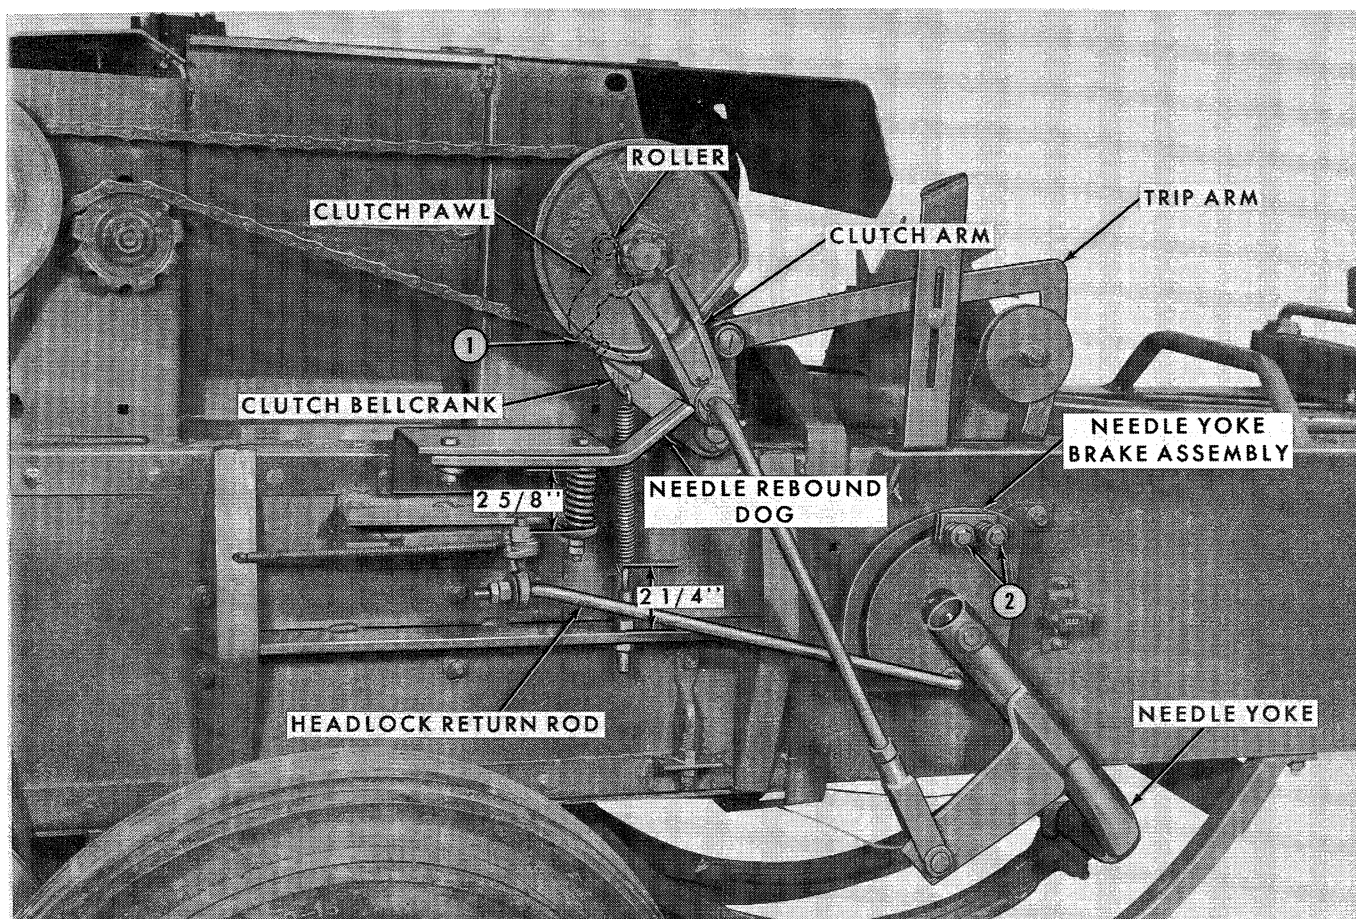
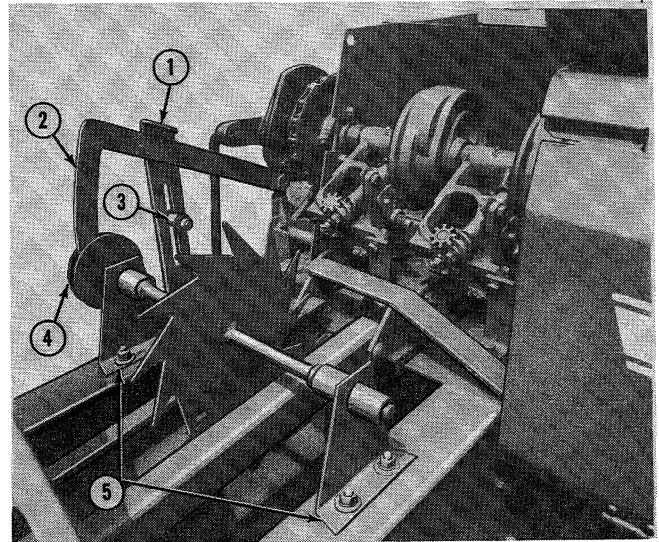
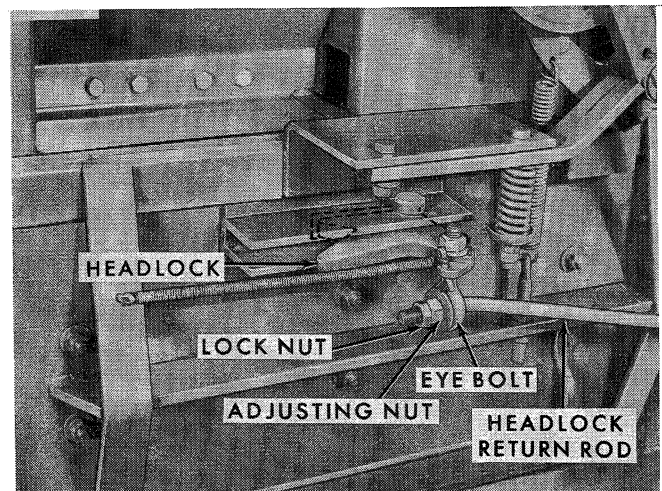

Figure 34
Figure 35
Figure 36
The hex head bolt in the end of the bellcrank, Figure 34, should be adjusted to provide a 1/16" clearance between the bolt head and the clutch pawl, when the clutch arm is seated against the rebound dog and the pawl roller is held against the clutch hub.
Adjust the hex head bolt (1), Figure 34, as follows:
1. Seat the clutch arm against the rebound dog, as shown in Figure 34.
The rebound dog, Figure 34, must be adjusted to retain the clutch arm and prevent any forward motion of the needles while they are in the home position. For proper tension on the needle rebound dog, adjust the spring to a length of 2-5/8" with the clutch arm seated against the rebound dog as shown.
The needle yoke brake assembly, shown in Figure 34, maintains a constant load on the needle yoke arm
during the tying cycle. This prevents the needles from overrunning the drive and also helps hold the needles in the home position. The brake springs should be adjusted to 7/8" – 15/16" in length. The adjustment can be made by means of the two hex head bolts (2), Figure 34.
The bale length can be adjusted from 12" to 52" by changing the position of the stop bolt (3), Figure 35, in the support bracket. To change the bale length, reposition the stop bolt lower for longer bales and higher for shorter bales.
Slotted holes are provided in the metering wheel bearing brackets (5), Figure 34, for obtaining proper
relationship between the knotter clutch pawl, Figure 34, and the tying mechanism trip arm assembly.
1. Turn the flywheel counterclockwise until the needle yoke is in the home position, Figure 34.
2. Adjust the metering wheel bearing brackets (5), Figure 35, until full contact is made between the clutch bellcrank bolt head (1), Figure 34, and the clutch pawl.
4. Turn the flywheel counterclockwise until the clutch trip arm (2), Figure 35, has moved to its rearmost position. The clutch trip arm should drop freely past the serrated roller (4).
5. Adjust the trip arm support bracket (1), Figure 35, to provide a slight clearance between the support bracket and trip arm (2).
When the needles move to their uppermost position, the headlock return rod, Figure 36, permits the spring loaded headlock to rotate into the slot in the side of the bale chamber. The headlock acts as a plunger safety stop to prevent the plunger from striking the needles when the baler is out of time. As the needle yoke returns to the home position as shown in Figure 34, the headlock return rod rotates the headlock out of the bale chamber and positions it parallel to the side of the bale chamber as shown in Figure 36.
1. Turn the flywheel counterclockwise until the needle yoke is in the home position, Figure 36.
2. Adjust the length of the headlock return rod, Figure 36, by backing off the lock nut, and turning the adjusting nut, as required, until the inner surface of the headlock is parallel to the side of the bale chamber. Tighten the lock nut.